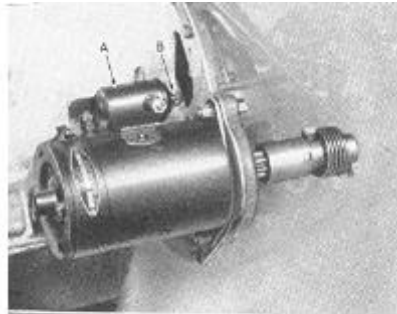

Figure 37
The starting motor, Figure 37, located at the left rear corner of the engine, is operated by a solenoid switch (A) mounted on the top of the starting motor. Control of the starter is through a remote control switch located on the instrument panel, Figure 32.